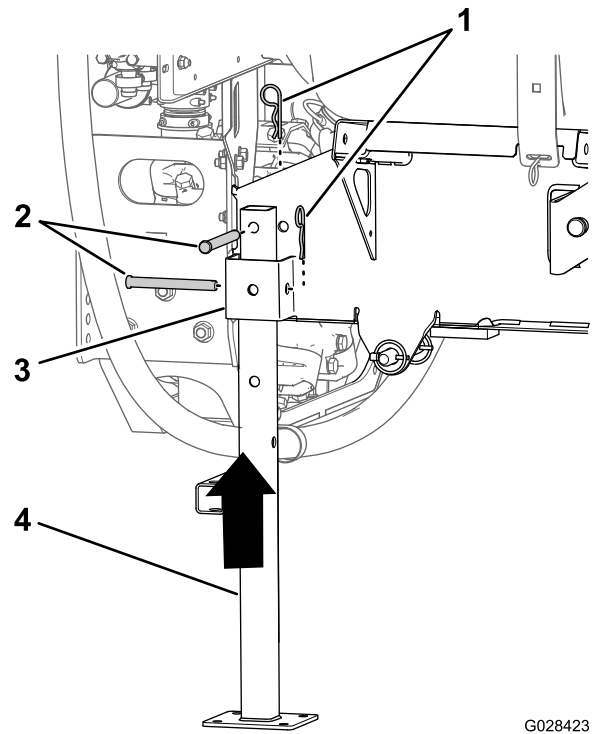

Figure 131
5. Align the rear jackstand with the rear jackstand receiver (Figure 131).
6. Align the hole in the top of the jackstand with the hole in the frame of the tank skid (Figure 131)
7. Secure the jackstand to the receiver and the frame with 2 clevis pins (1/2 x 4-1/2 inches) and 2 hairpins (5/32 x 2-5/8 inches) as shown in Figure 131.